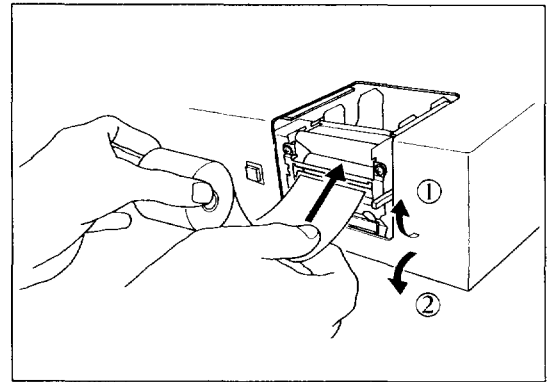

Figure 21
- (4) Insert the leading edge of the paper into the paper inlet and lower the lever (see Figure 21).